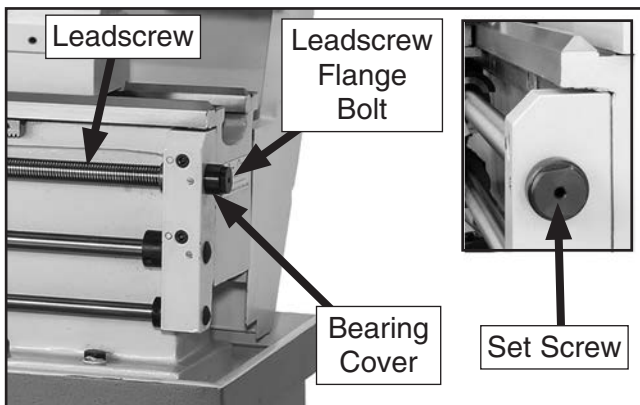

Figure 123. Leadscrew end-play bearings.
2. Back out leadscrew set screw approximately five turns (see **Figure 123**).
3. Un-thread leadscrew flange bolt (see **Figure 123**), and slide bearing cover off end of leadscrew.